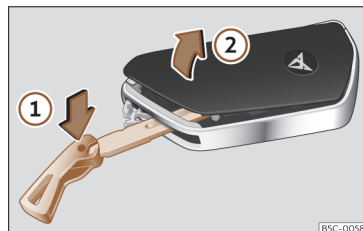

Fig. 67 Vehicle key: open the battery compartment cover.
- Insert the key blade into the slot >>> Fig. 67, press it in the direction of the arrow ① and detach the cover by levering it ②.